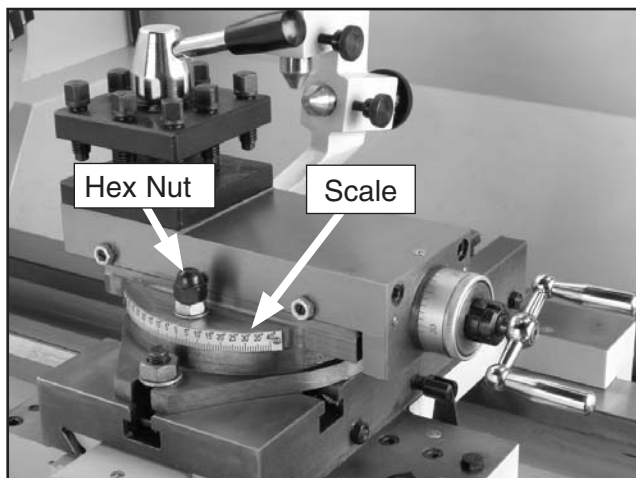

Figure 28. Compound rest, scale, and handwheel.
1. Loosen the hex nuts, one on each side of the compound rest (see **Figure 28**).